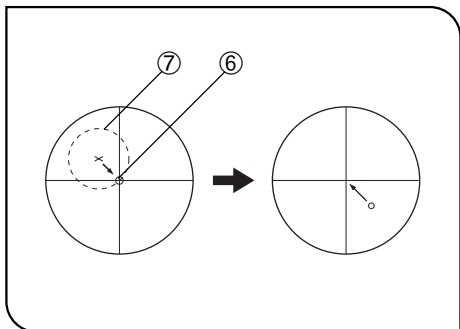

Fig. 21
9. Centering the rotatable stage (Figs. 21 & 22)